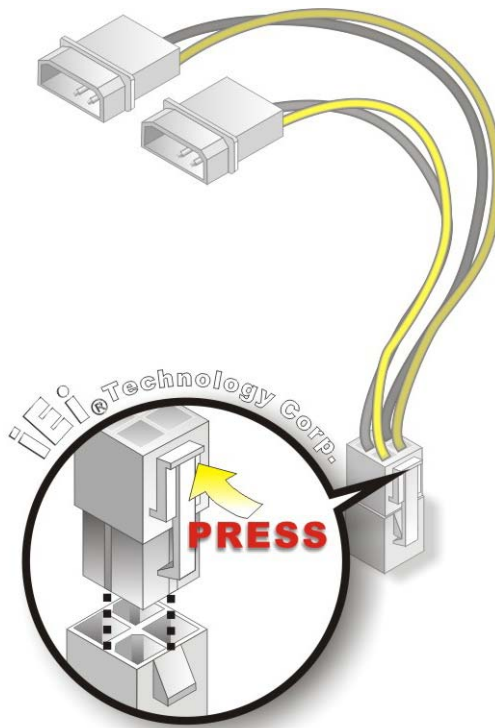

Figure 4-11: Power Cable to Motherboard Connection
Step 2: **Connect the Power Cable to the Motherboard.** Connect the 4-pin (2x2) Molex type power cable connector to the AT/ATX power connector on the motherboard. See Figure 4-11.